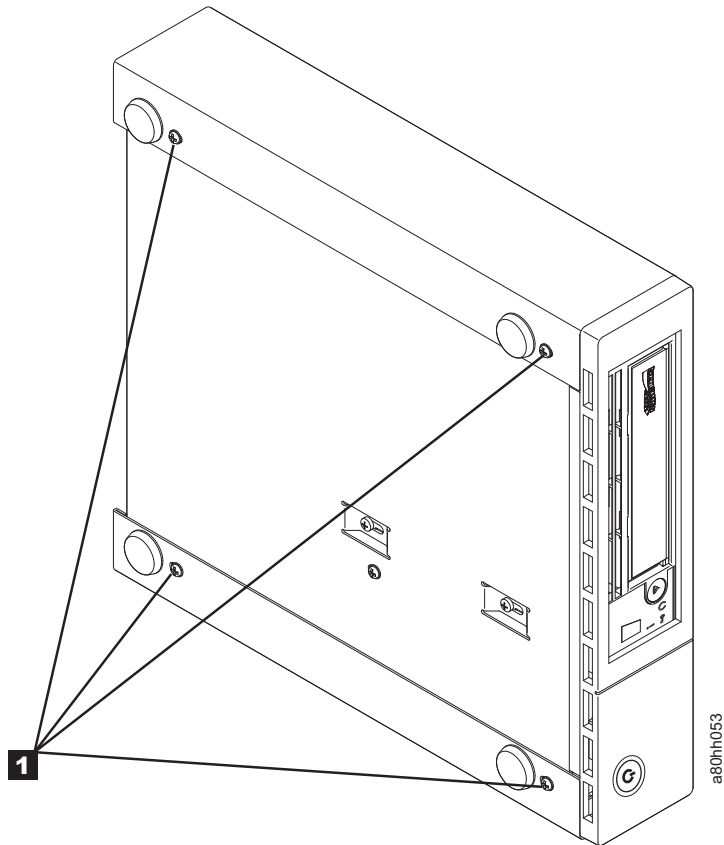

Figure 31. Removing the screws that secure the cover and internal drive
4. Remove the 4 screws (**1** in Figure 31 on page 84) by the feet.